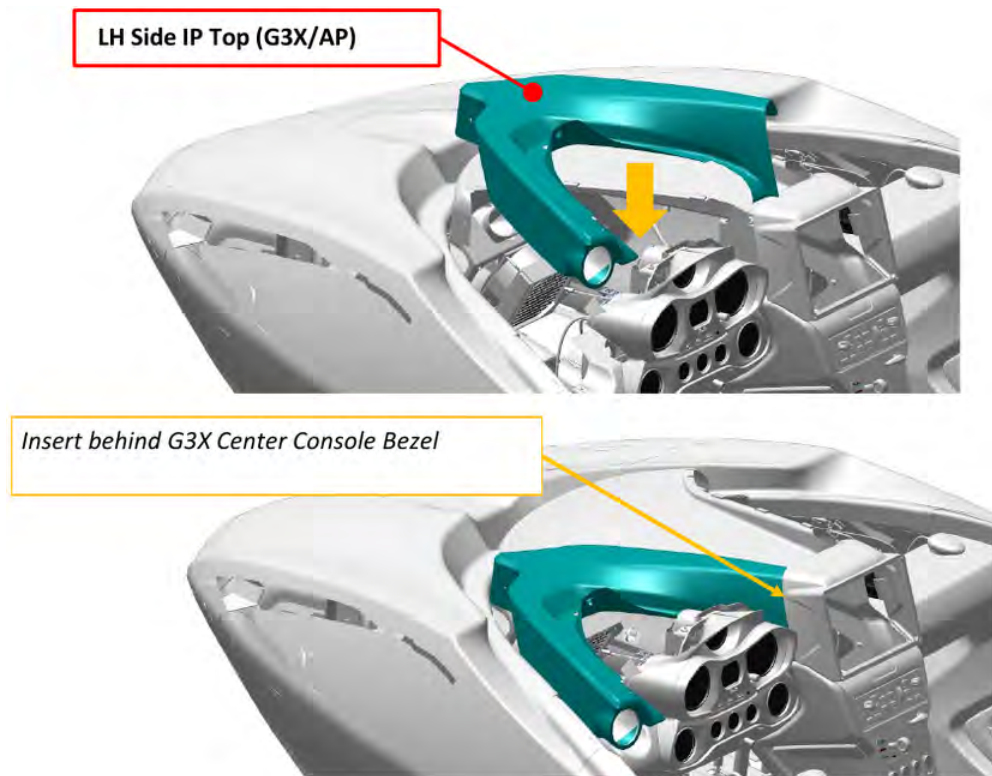

FIGURE 9-11
6. Disconnect the LH side IP Top from LH crossbeam. (See Figure 9-11.)